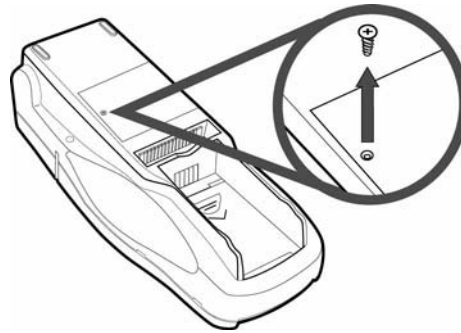

Figure 13 Remove SIM Door Screw
- 1 Remove screw from SIM card access door on back of Omni 3600 terminal (Figure 13).